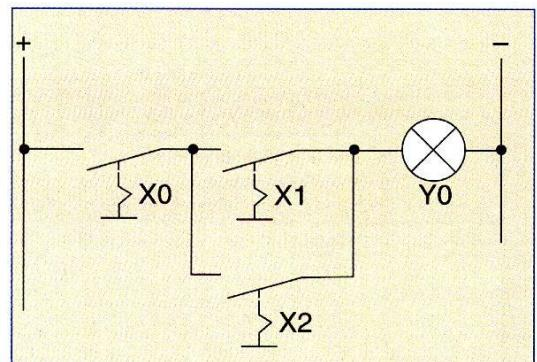

Fig. 1.18 Control circuit with one switch in series and two switches in parallel.
- Create a programme for the function shown in Fig. 1.18.